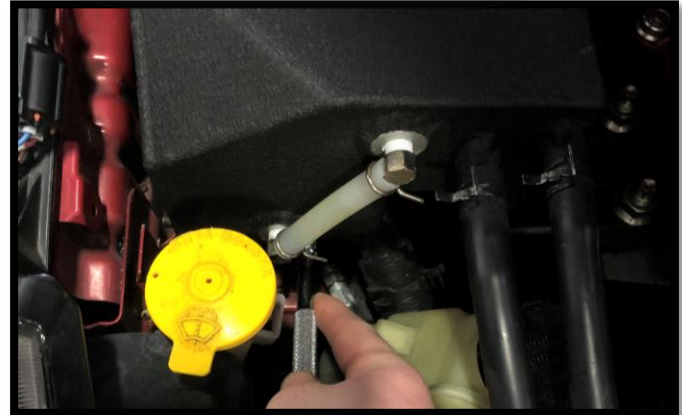

Figure 2h
- h) Using the access created, tighten the lower M6 mounting bolt until snug using a small 10mm socket and ratchet. A 1/4" drive, deep 10mm socket works best in this area, as shown in **Figure 2h**.